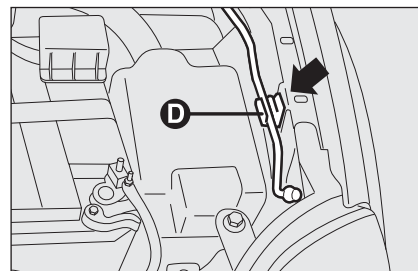
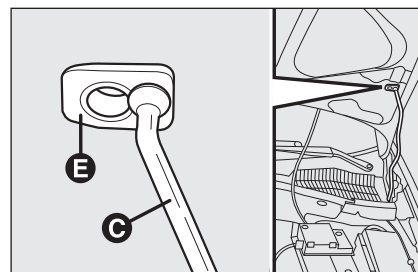

fig. 91
fig. 92
- ☐ lift the bonnet and at the same time release the support prop from its locking device **D-fig. 91**, then insert the end **C-fig. 92** into hole **E** on the bonnet.
- ☐ hold the bonnet up with one hand and with the other remove support rod **C-fig. 92** from hole **E** and fit it back into its catch **D-fig. 91**;